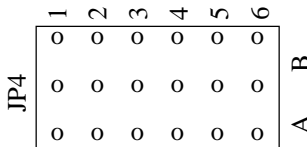

Figure 5. Analog and digital I/O selection jumper block JP4.
- a. Each line must be selected by installing the appropriate jumper on JP4, shown in Fig. 5. These jumpers positions are given in Table 3.
- Each line must be selected by installing the appropriate jumper on JP4, shown in Fig. 5. These jumpers positions are